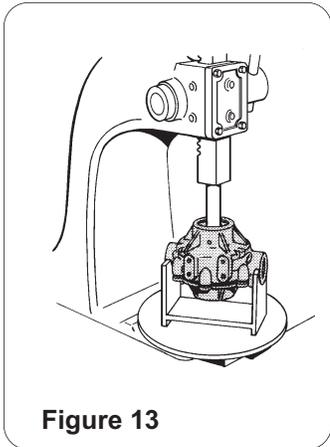

Figure 13
5. Support the Pump at its Ports in an Endplate Support Fixture with the End Plate down. Use wood blocks for Series 1500, 1700 and 4001/4101. Place on press bed. Center press on Pump Shaft and apply pressure to press the Pump apart. (See Figure 13).